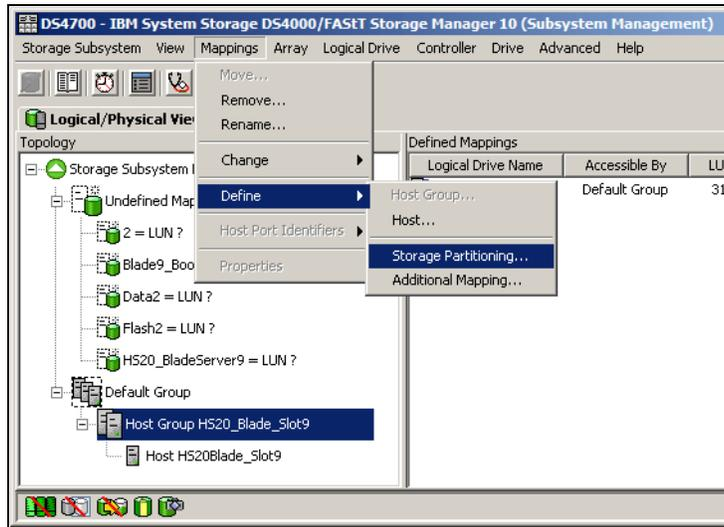

Figure 10-24 Define storage partitioning
- a. Select the host group and from the Mappings menu. Select **Define** → **Storage Partitioning**, as shown in Figure 10-24.